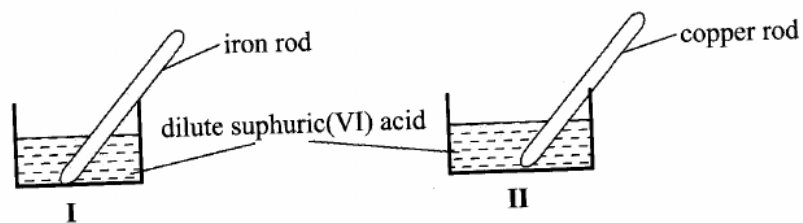

Figure 2
3. (a) A student used **Figure 2** to investigate the action of dilute sulphuric(VI) acid on some metals. Beaker **I** and **II** contained equal volumes of dilute sulphuric(VI) acid. To beaker **I**, a clean iron rod was dipped and to beaker **II**, a clean copper rod was dipped.